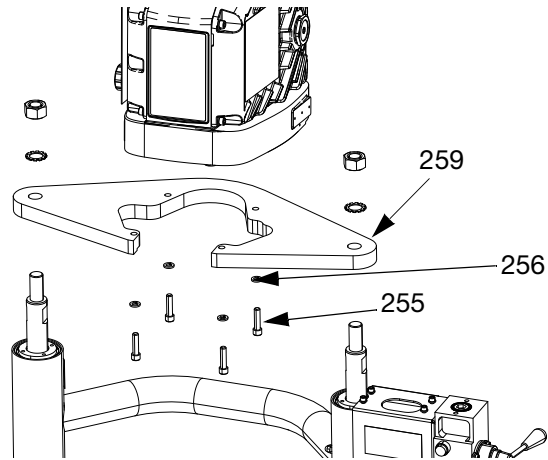

FIG. 52: D60 with Ram
- b. *D60 3 in. ram supply units:* Remove screws (255) and washers (256) from mounting plate (259). Using a secure hoist, lift the Driver (AB) from the mounting plate (259). See FIG. 52.
1. Using a secure hoist, attach Driver (AB) to mounting plate (259) with screws (255) and washers (256). See FIG. 52 on page 53.
3. Connect power to the Driver (AB). Follow a-e of step 4 on page 52 in reverse.